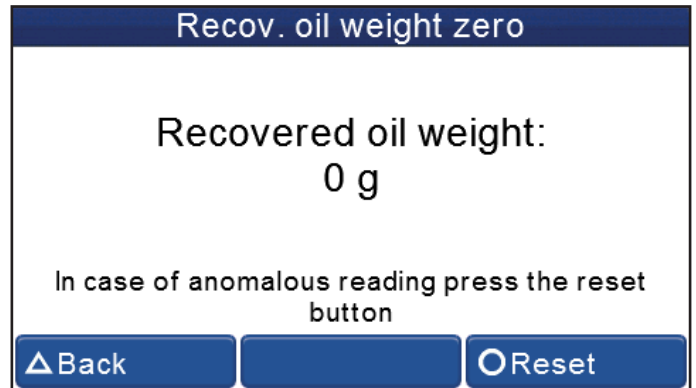

Fig. 43: Recovered oil weight tare
4. Process will reset the zero point of the recovered oil scale and return to the screen shown in Fig. 43.